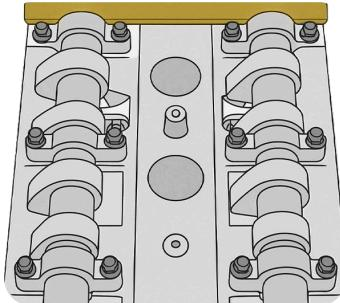

fig.3
6. Install the timing disc position gauge onto the sensor wheel (see fig. 3).